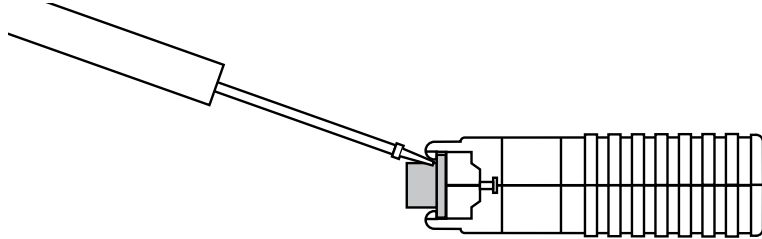

Figure 4: How to Use a Small Flathead Screwdriver to Begin to Open the Model 2070 Case
1. Open the unit by gently inserting a screwdriver between the DB-25 connector and the lip of the plastic case (see Figures 4 and 5, below). You don't have to worry about breaking the plastic, but be careful not to bend the D-sub connector.